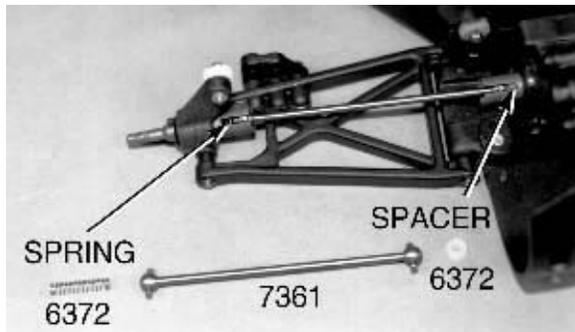

Fig. 108
□ **Figs. 108, 109 & 110** FOR BUSHING KITS we need to remove two #6372 1/16" thick plastic dog bone spacers and two #6372 dog bone springs along with two #7361 truck dog bones. These will all be in bag #7-8.
(1) Look at fig. 108, we are going to install one #6372 plastic dog bone spacer into each of the two slotted outdrives of the transmission. (2) Next we are also going to install a #6372 dog bone spring into the slotted end of each of the two #6374 rear stub axles. There is a hole drilled into the axle that the spring fits down into. (3) Take one of the #7361 truck dog bones and line it up with the slotted outdrive of the transmission. Go ahead and slide the dog bone pin into the slots. (4) Now rotate the rear stub axle until you can line up the outside